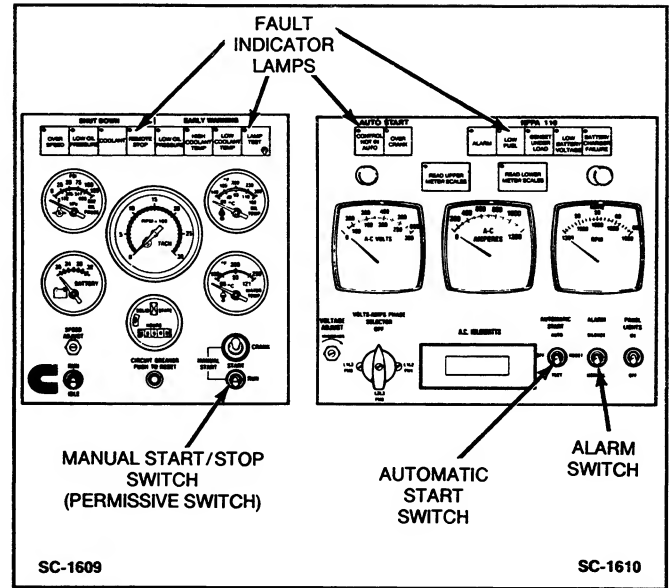

FIGURE 3-1. GENERATOR SET CONTROL PANEL
- Silence Alarm horn (if sounding) by placing the Alarm switch to SILENCE position (see Figure 3-1).
- Review all fault indicator lamps on control panels (see Figure 3-1).
- Stop generator set, if not already shut down. Place Manual and Automatic Start switches to OFF position (see Figure 3-1).